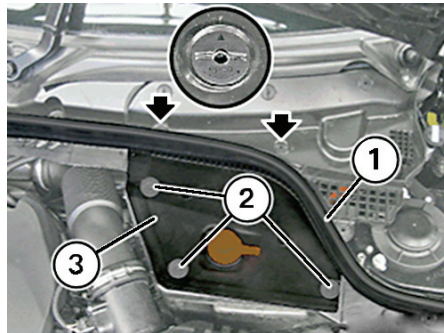

Fig. 1 Battery cover removal
3. Partially detach seal (1), **Fig. 1**.
4. Open locks by turning counterclockwise. Release screws (2) and remove battery cover (3), **Fig. 1**.
9. Install battery cover (3) and screws (2), **Fig. 1**. **Torque** screws to 25 inch lbs.
10. Turn locks up to limit position against direction of arrow, **Fig. 1**.
11. Install gasket (1) and press down firmly, **Fig. 1**.